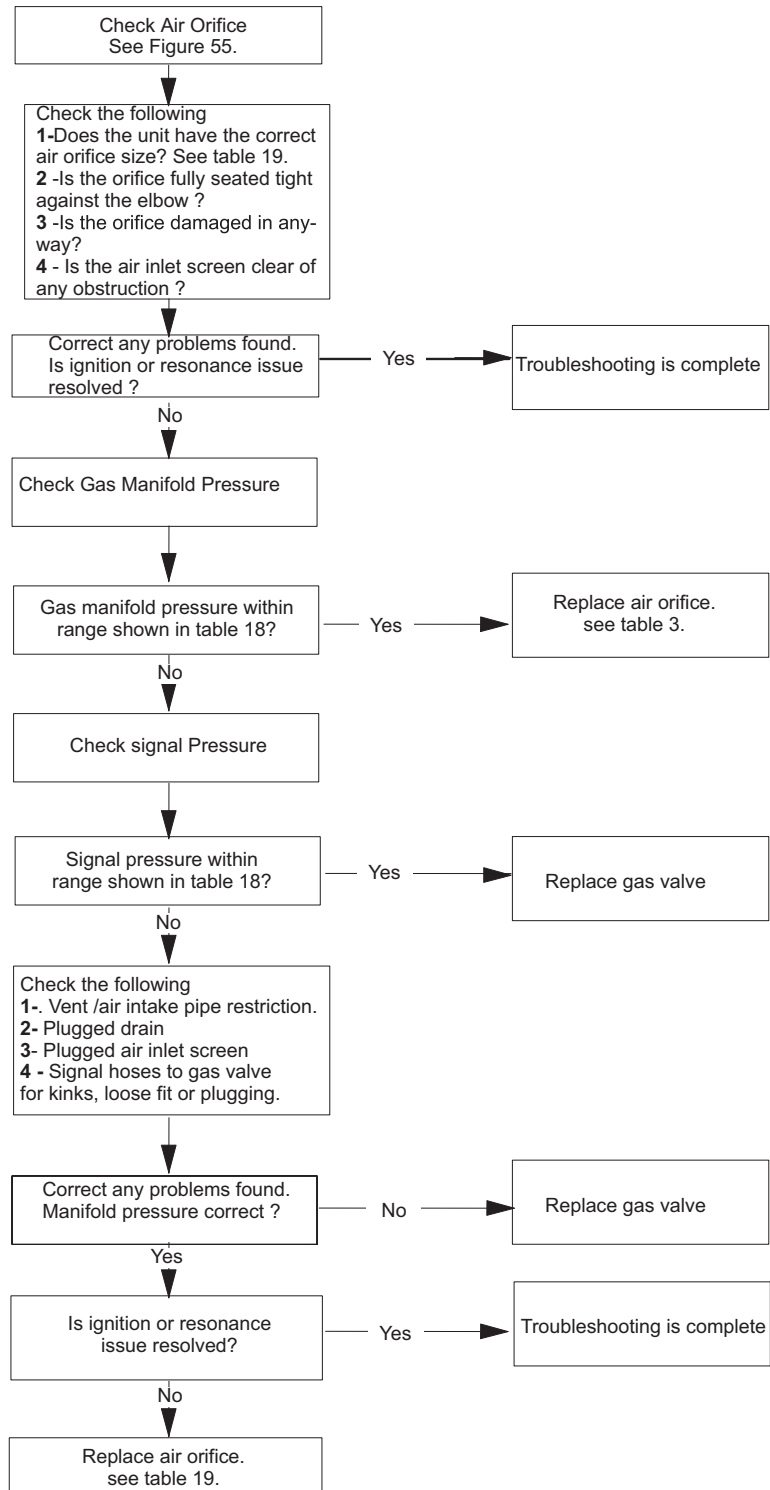

FIGURE 57
- 10 - Repeat manifold and signal pressure check. If unit ignites and manifold and signal pressure are correct, move on to combustion check. If unit still does not ignite or ignites with loud resonance go to Troubleshooting FIGURE 57.